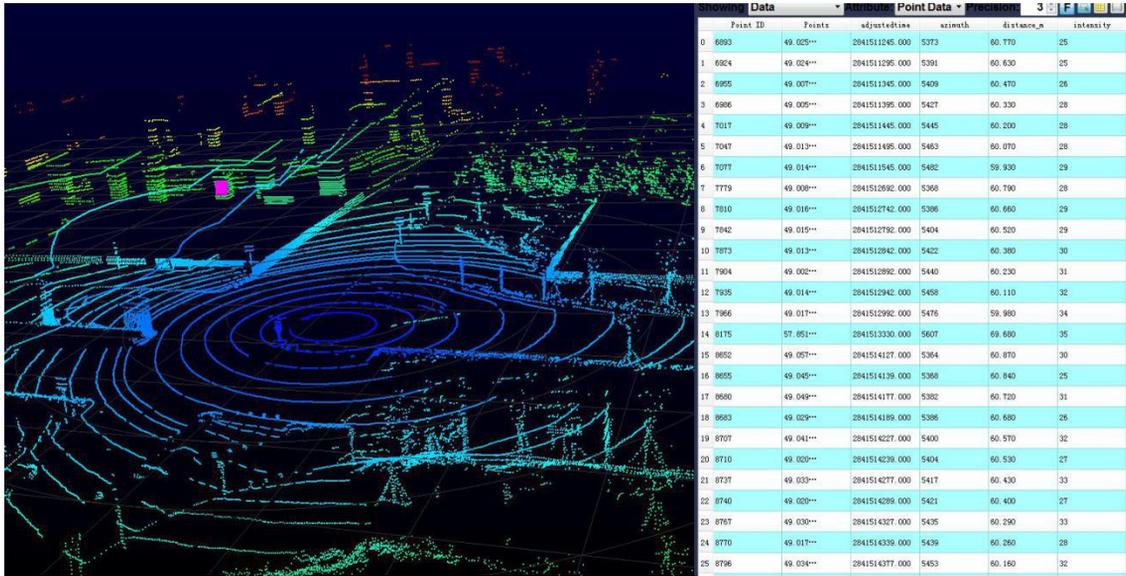

Figure C-13: RSView List Selected Points.
9. In the 3D rendered data pane use your mouse to draw a rectangle around a small number of points. They will immediately populate the data table (Figure C-13).